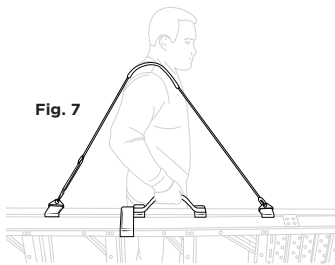

Fig. 7
2. Lift the ladder using the grab handle and shoulder strap. For smaller, lighter ladders it may not be needed to use both the grab handle and shoulder strap, but one or the other may suffice. [fig. 7]